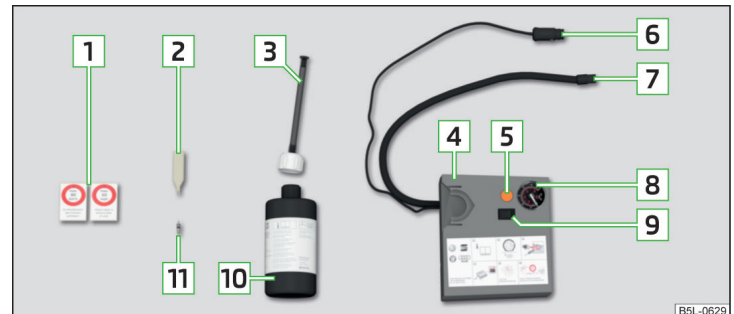

Fig. 248 Principle sketch: Components of the breakdown kit
### Kit components » Fig. 248
- Stick the sticker **1** » Fig. 248 on page 228 on the dashboard in the driver's field of view.
- Forcefully shake the tyre inflation bottle **10** » Fig. 248 on page 228 back and forth several times.
- Screw the air compressor tyre inflation hose **7** » Fig. 248 on page 228 firmly onto the tyre valve.